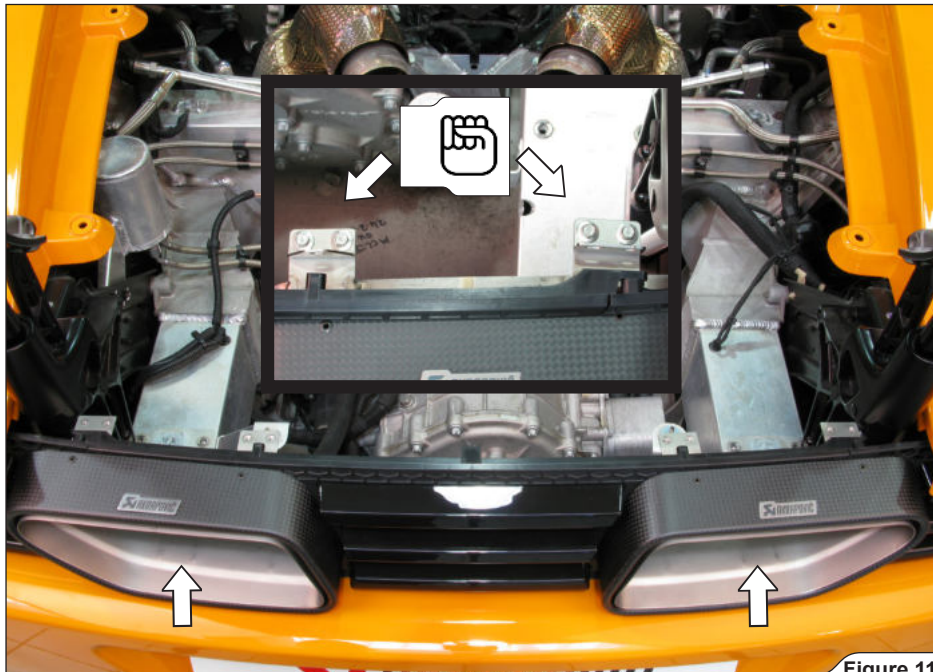

Figure 11
1. Correctly orient and carefully insert the tail pipes into the tail trim panel and hand tighten the brackets onto the tail pipes (using bolts from Akrapovič installation kit), as shown (Figure 11).